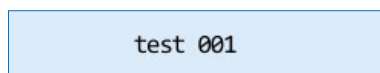

Figure 3.2a Experiment File Interface - File Name
1. **File name:** display the name of the file selected by the user, as shown in Figure 3.2a.